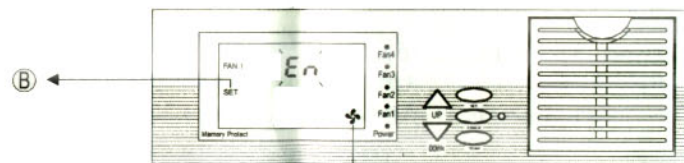

Figure 5
By pressing the SET button an appropriate number of times, you will reach the four fan channels (1 to 4). The LCD will show both SET (Figure 5-B) meaning you can change the enable/disable setting, and the fan icon (Figure 5-C) if power is turned on to that fan.
- 2) When you reach the desired fan channel, press the FORCE button. This turns the power on to that fan, and is indicated by a blinking fan icon (Figure 5-(C)). Power will be supplied to this fan channel whenever the unit is turned on.